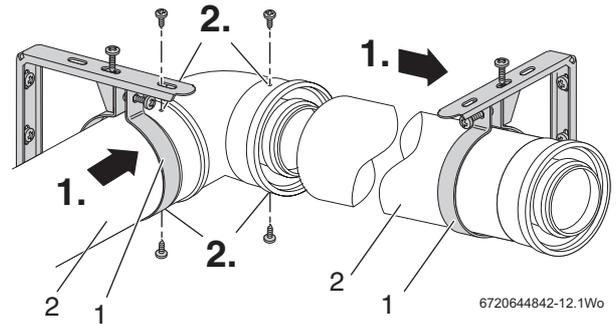

Fig. 26 Extensions
1. Slide the support clamp (optional item 3) onto the flue extension as shown.
2. Push fit the extension (4) as far as possible into the flue turret.
- ▶ Refer to figure 26 and slide the support clamps (1) onto the additional flue extensions (2).
1. Working from the boiler, fit the support clamps (1) and extensions (2), to take the weight of the flue.